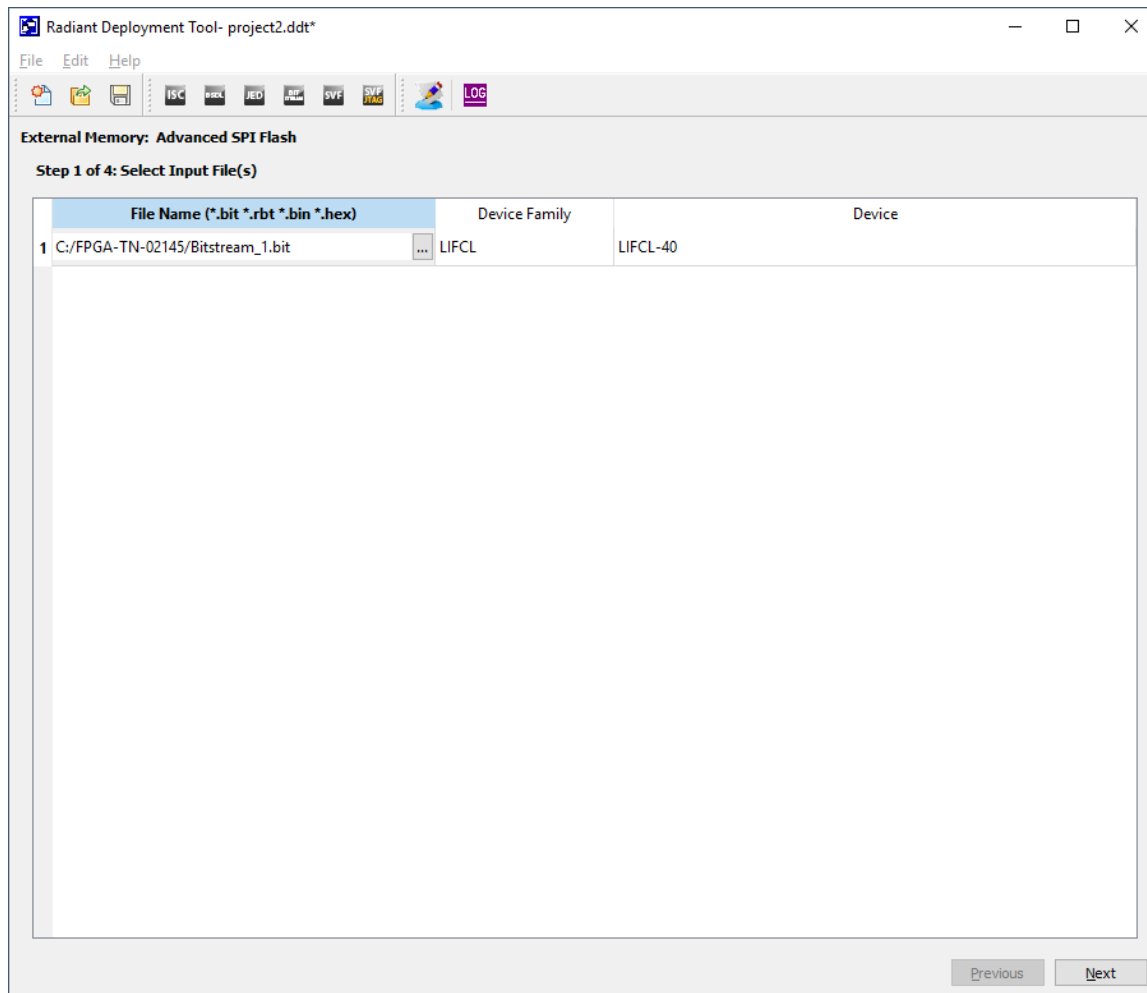

Figure 6.12. Select Input File Window
Step 1 of 4: Select Input File(s) window (Figure 6.12)
Note: Figure 6.12 shows the step to select the Primary pattern.